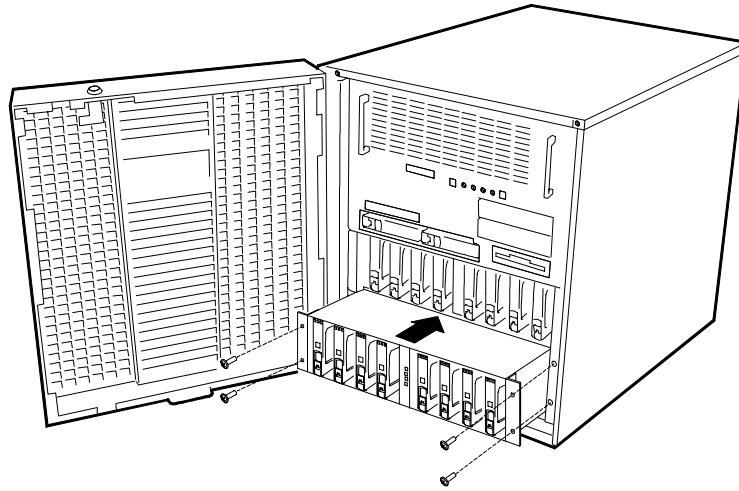

Figure 4-72. Installing the DEU
6. Install the DEU into the tower cabinet (see Figure 4-72), as follows: